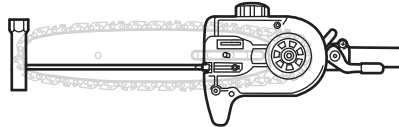

Fig. 19
4). Turn the tension screw (12) clockwise with the slotted screwdriver, and make sure the tension pin(11) is adjusted to its closer position. (See Fig. 19)